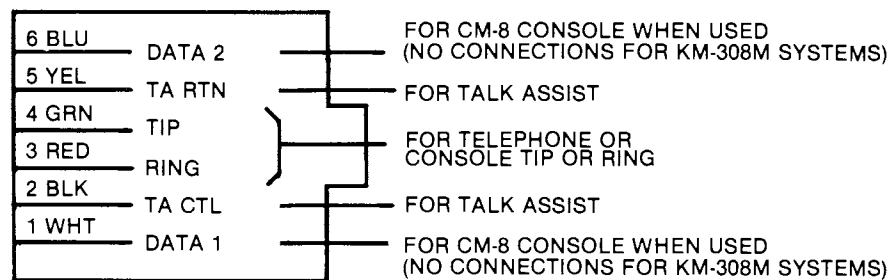

Fig. 9 — Observer's Station Receptacle Assignments.
4.06 Make connections between the KMC-308M and the observer's telephone or console using modular cords with 6-position, 6-conductor RJ-11 jacks. Plug one end of the cord into the OBSERVER'S STA modular receptacle on the KMC-308M. (See Figure 2 for location of the receptacle on the KMC-308M, and Figure 9 for pin designations.) Make connections to the observer's station in one of the following manners: